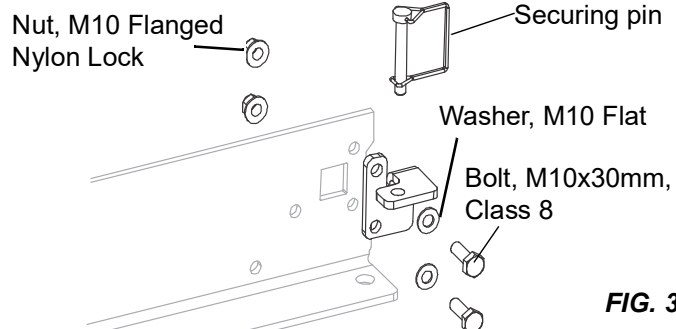

FIG. 3-7
1. Install the stop blocks (ib Bed Kit bag) at **both ends** on the operator's side to prevent the sawhead from sliding off the bed. See Fig. 3-7.